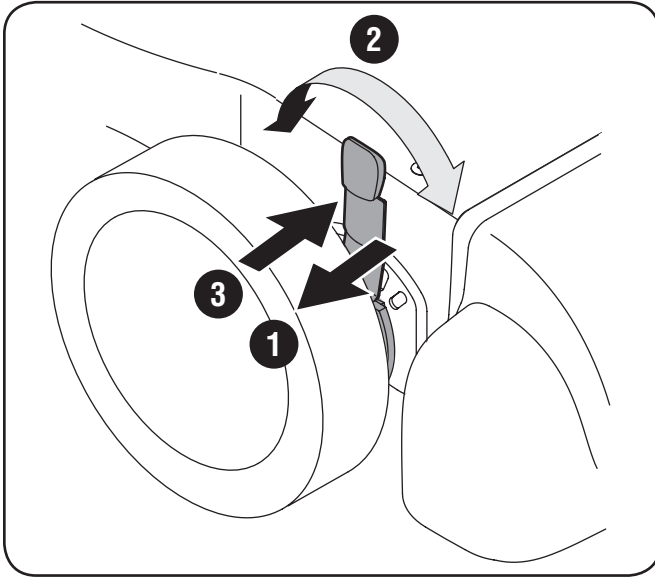

Figure 3-5
1. Depress nozzle height adjustment lever towards wheel. See Figure 3-5.
3. Release lever towards deck. See Figure 3-5.